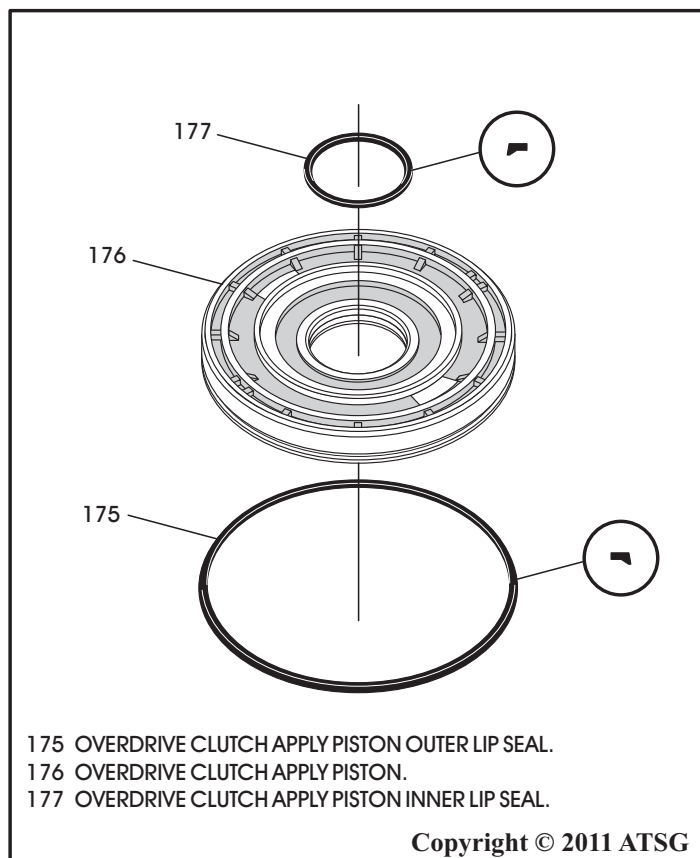

Figure 231
44. Install new inner lip seal onto overdrive clutch piston in the direction shown in Figure 231.
44. Install new outer lip seal onto overdrive clutch piston in the direction shown in Figure 231.